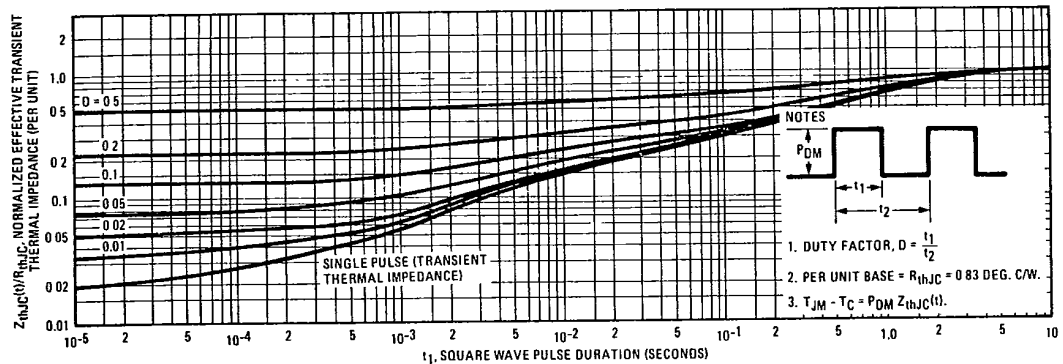

Fig. 5 - Maximum Effective Transient Thermal Impedance, Junction-to-Case Vs. Pulse Duration
① T_J = 25°C to 150°C. ② Pulse Test: Pulse width ≤ 300μs, Duty Cycle ≤ 2%. ③ Repetitive Rating: Pulse width limited by max. junction temperature. See Transient Thermal Impedance Curve (Fig. 5).